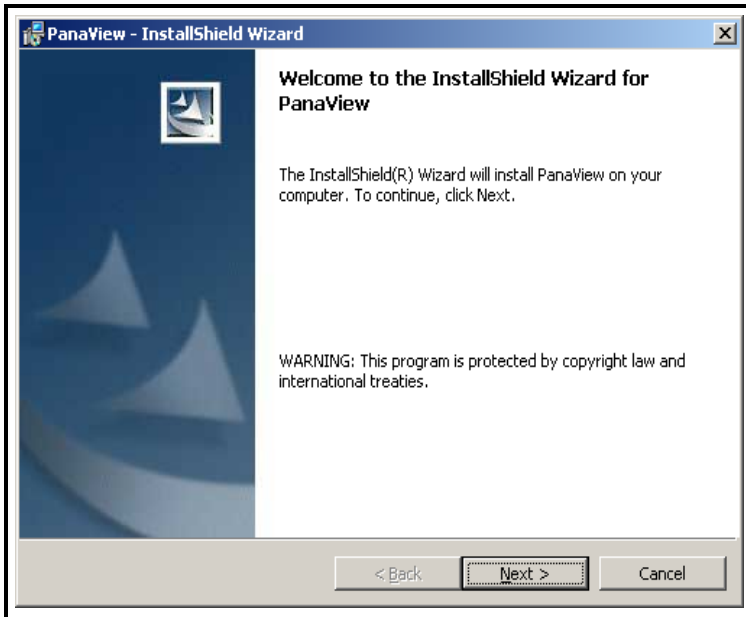

Figure 2-2: *Install-Shield* Wizard
3. The *Install-Shield* wizard, shown in Figure 2-2 below, will launch and guide you through the installation process. Click on the [Next] button to continue.